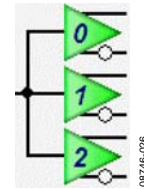

Figure 7. Driver Symbol
11. Power down unused drivers by clicking the numbered triangular symbol (see Figure 7) on the right side of the main window, and then clicking **Safe Power Down**.